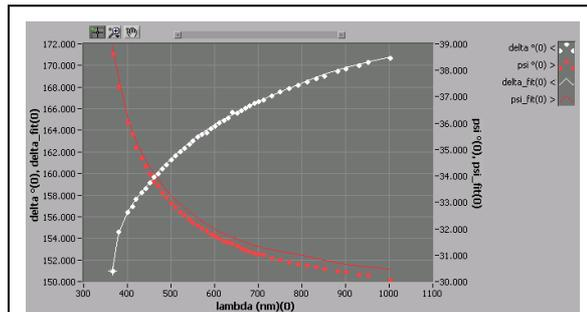

Fig. 2: Spectrum of Delta/Psi, fit with thickness $d = 26.21 \pm 0.15$ nm of SiO₂-layer on Si-wafer
- Fit a spectrum (fig.2) in order to obtain the mean layer thickness in the ROI. Optionally the dispersion of the refractive index is obtained.
In case of mixed or doped semiconductor materials it is often necessary to measure the dispersion parameters of the refractive index, e.g. Cauchy-parameters, as fit parameters besides the thickness. To this end a wavelength spectrum (fig.2) was measured. The fit of the measured spectrum is already good using the refractive index from literature.